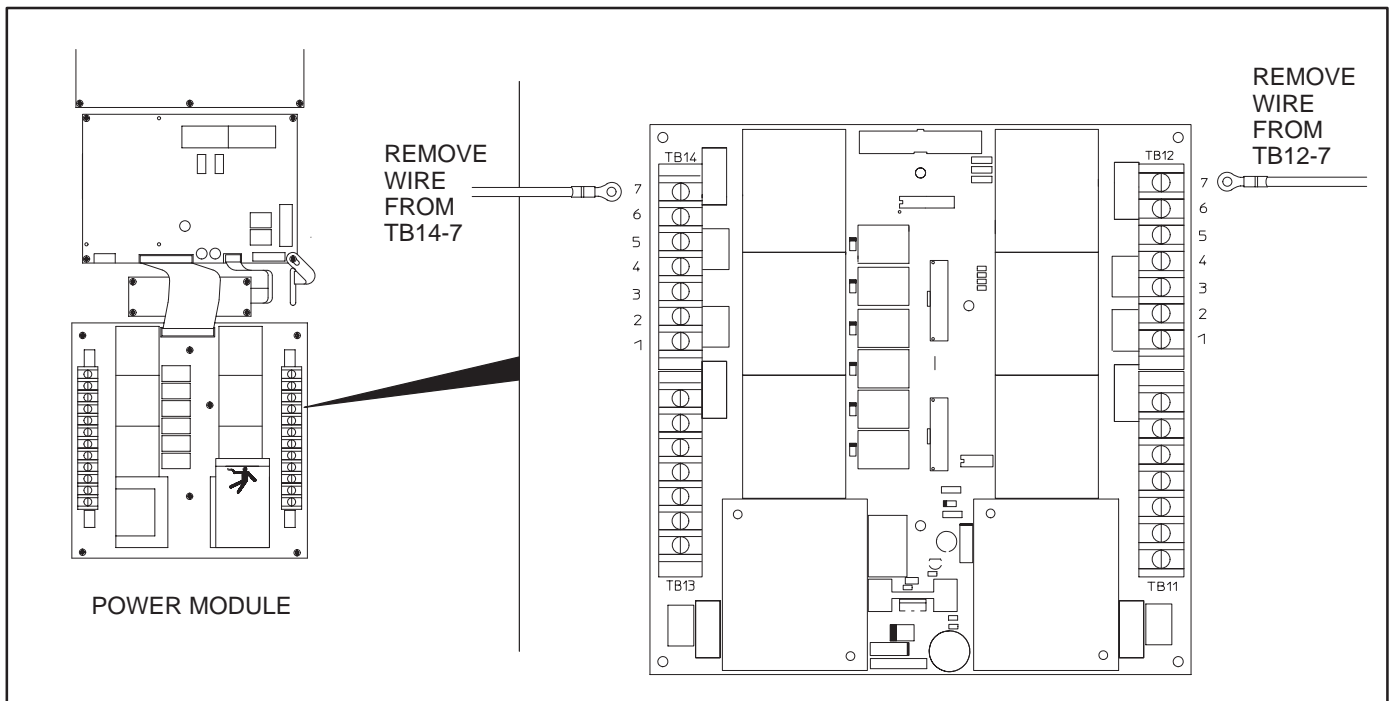

FIGURE 3-12. OPTIONAL DELTA CONFIGURATION JUMPER
1. Disconnect the neutral sensing wires marked TB12-7 and TB14-7 (see Figure 3-12).